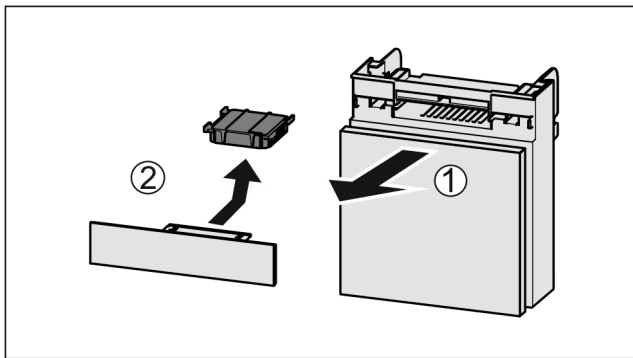

Fig. 218
- ▶ Pull out the compartment Fig. 218 (1).
- ▶ Remove the carbon filter Fig. 218 (2).